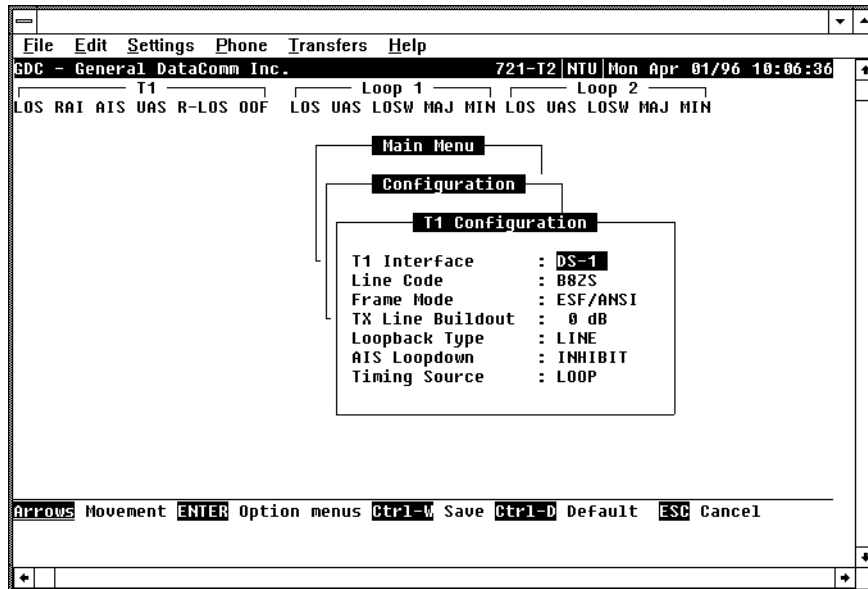

Figure 3-11 Interface Configuration Screen
The Interface Configuration option displays the Interface Configuration screen, showing the T1 configuration parameters of the 721-T1/T2. A typical screen is shown in *Figure 3-11*.
3. To reset the selected fields to the default values, press `Ctrl-D`. Default values are shown in *Figure 3-11*.